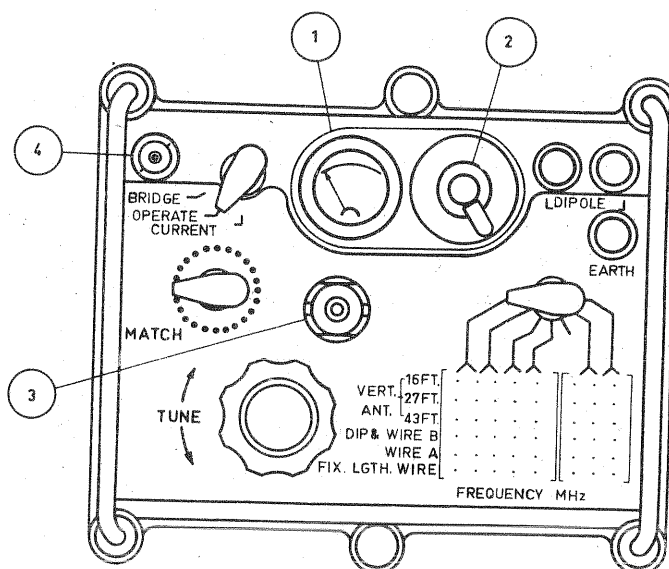

FIG 12 - COUPLER, ANTENNA, CU-F2, FRONT PANEL CONTROLS
44. When the GRC-F2 is used in conjunction with the Coupler, Antenna, CU-F2 the 8 ft whip antenna must be removed from the R/T unit and the MATCH control set to position S. The TUNE and FINE controls on the R/T unit are not used, and the controls on Coupler CU-F2 only are used for antenna matching. These controls are shown in Fig 12, and their functions are described in Table 16.